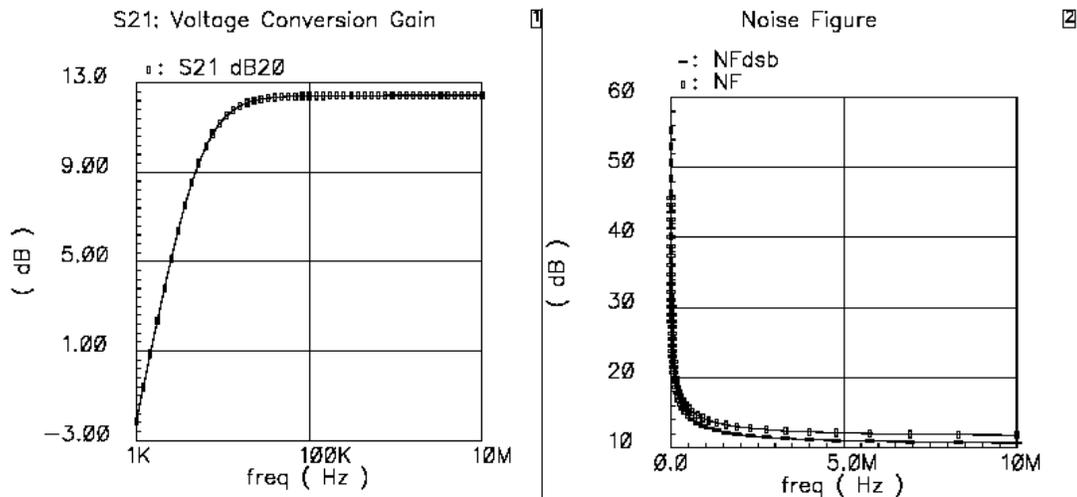
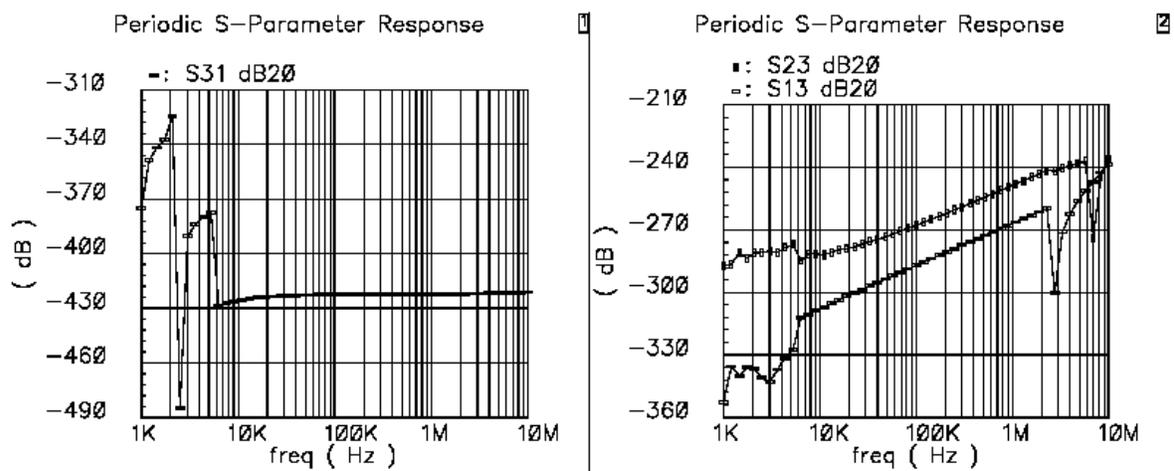

Fig 8: NF and S-Parameter Plots
Fig 9: S-Parameters Isolation Plots
- Order of ports is important, in our case Port0 (RF) is numbered 1 and port 3 (IF) is numbered 2. These are considered as input and out ports for noise analysis respectively.
- *You will see the plot as shown in Fig8 and Fig9*